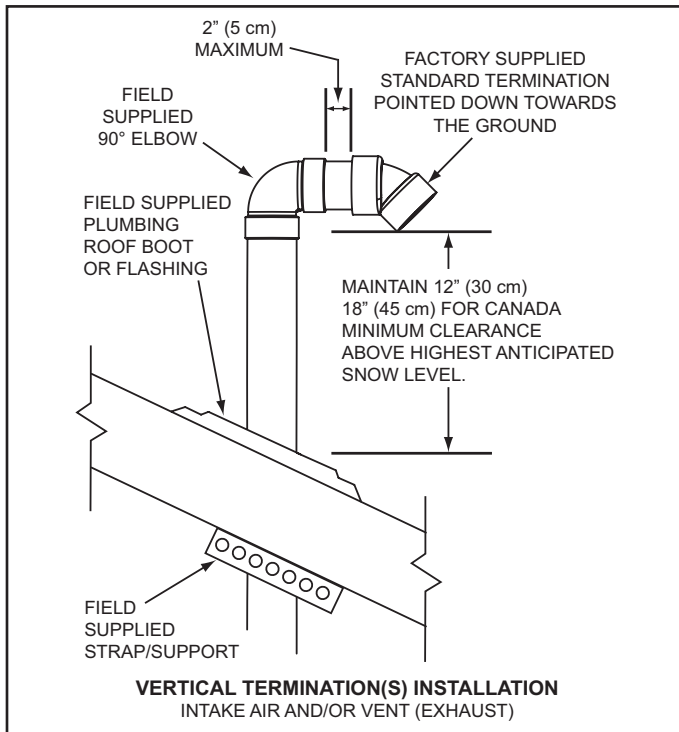
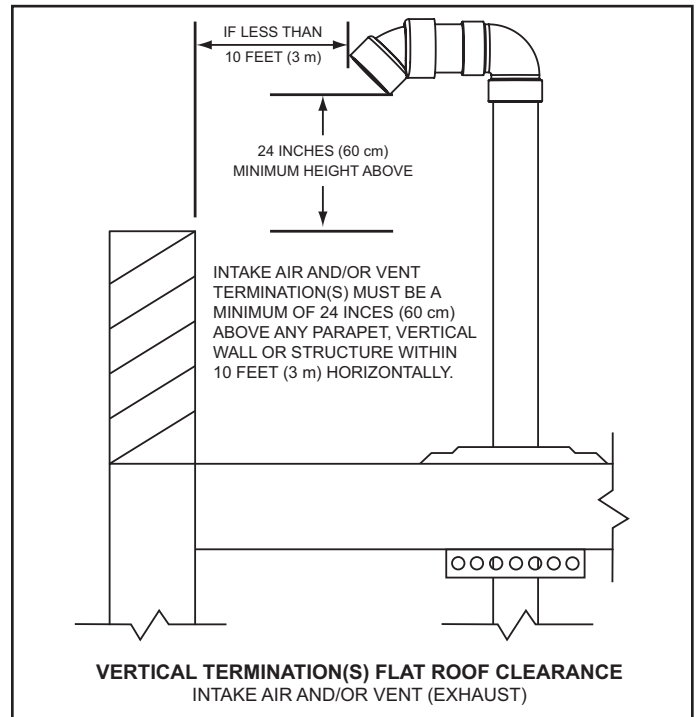
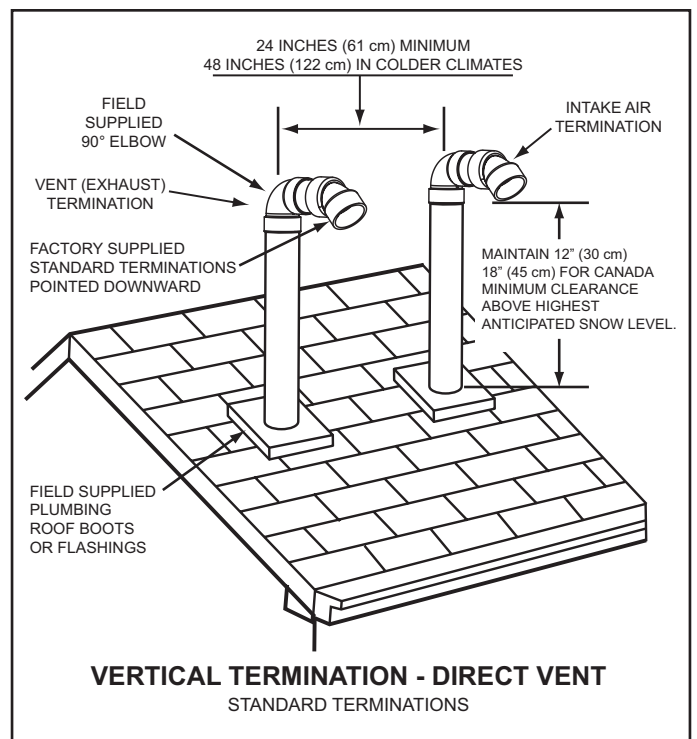

Figure 19
Figure 20
Figure 21
2. If installing only the vent (exhaust) piping in a Power Vent configuration vertically through the roof; ensure that all exterior vertical clearance requirements shown in Figure 19 and Figure 20 on page 25 are being maintained. These clearances and those cited by local and national codes must be maintained.
NOTE: On flat roof installations the vent termination must be a minimum of 24 inches (60 cm) above any parapet, vertical wall or structure within 10 feet (3 m) horizontally. See Figure 20 on page 25.
3. If installing both intake air and vent piping in a Direct Vent configuration vertically through the roof; ensure that all exterior vertical clearance requirements shown in Figure 19 and Figure 20 on page 25 are being maintained. These clearances and those cited by local and national codes must be maintained.
NOTE: On flat roof installations the intake air and the vent terminations must be a minimum of 24 inches (60 cm) above any parapet, vertical wall or structure within 10 feet (3 m) horizontally. See Figure 20 on page 25.
The vent termination must be oriented facing downward as shown in Figure 19 and Figure 20 on page 25.
The bottom edge of the vent termination must be a minimum of 12 inches (30 cm), 18 inches (45 cm) in Canada, above the average or expected snow level as shown in Figure 19 on page 25.
of the roof as shown in Figure 21 on page 25.
The intake air and vent terminations must be oriented facing downward and in the same direction as shown in Figure 21 on page 25.
The intake air and vent terminations must have a minimum separation of 24" (61 cm) measured on center line as shown in Figure 21 on page 25. In colder climates this separation should be increased to at least 48 inches (122 cm).
The bottom edge of the intake air and vent terminations must be a minimum of 12 inches (30 cm), 18 inches (45 cm) in Canada, above the average or expected snow level as shown in Figure 19 and Figure 21 on page 25.
The distance between the closest vent and intake air terminations must be a minimum of 24 inches (61 cm) as shown in Figure 21. In colder climates this separation should be increased to at least 48 inches (122 cm).
- Suspend the pipe(s) through center of hole using field supplied metal strapping or equivalent support materials as shown in Figure 19.
- Slide a roof boot or equivalent flashing over the pipe and secure roof boot or equivalent flashing to roof (see Figure 19) and seal around the flashing.
- Install the factory supplied intake air and/or vent termination(s) using field supplied pipe and one field supplied 90° elbow as shown in Figure 19. The short section of pipe that connects between the field supplied 90° elbow and the factory supplied
termination must not be excessive in length. The exposed portion of this pipe shall be no more than 2 inches (5 cm), see Figure 19.